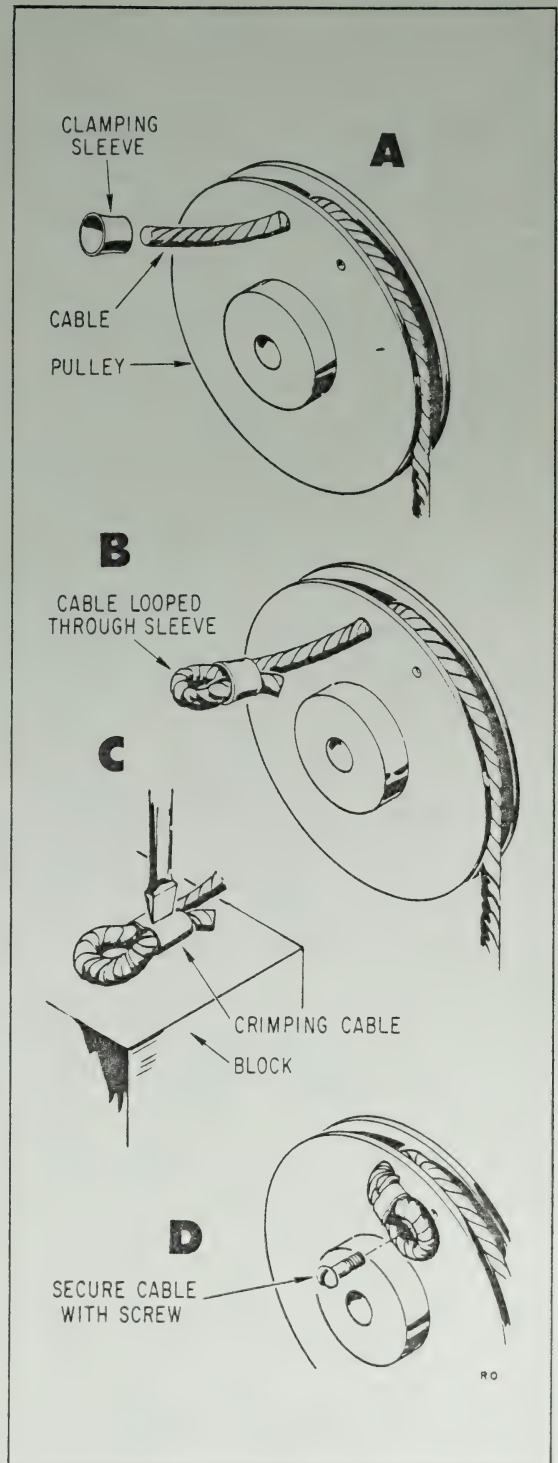

Figure 4-2. Installation of Eyelets on Plastic Coated Cable
b. Insert free end of 11-inch cable through hole A of drive pulley and form loop in end of cable as shown in figure 4-2. See paragraph 4-26 for procedure.
4-26. Replacement cables are supplied from the factory with a loop formed in one end. The other end is not looped since it is necessary to thread this end through a hole in the drive pulley before the loop is formed (see A of figure 4-2).
b. Crimp center of eyelet as shown in C of figure 4-2 with a screwdriver and a hammer.
c. Cable is now ready to be attached to drive pulley (refer to D of figure 4-2) using the small screw previously removed (step a, paragraph 4-24).